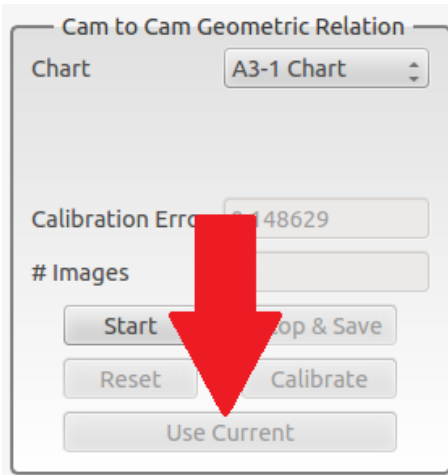

Figure 23
- Press *Use Current* to take an snapshot (Figure 23)